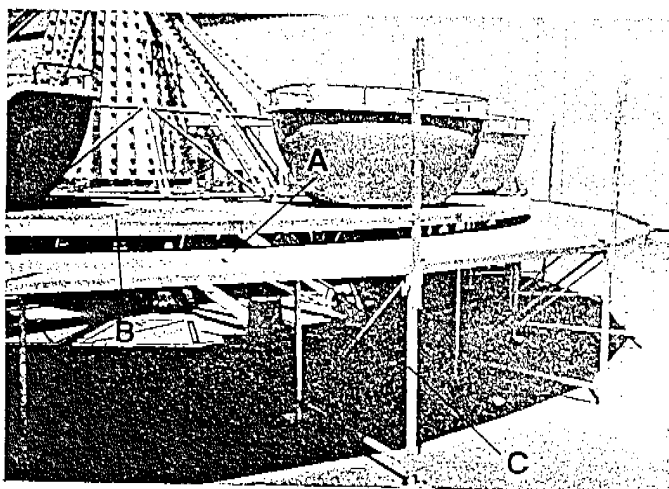

Fig. 13
- b. Please note the proper position of the walkway platform (a) in relation to the position of the rotating platform (b) once the walkway platform has been completely set up. The walkway platform forms a circle around the ride. The outside edge of the rotating platform just meets the inside edge of the walkway. In operation position, the level of the rotating platform is slightly higher than the walkway. (The manufacturer suggests about 4 inches.) (Fig. 13)
- d. The handrail sections are installed to the vertical bars that extend up from the walkway support frame sections (c). (Refer to Fig. 13)